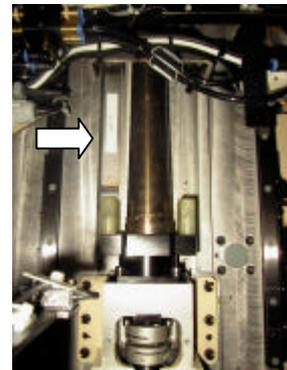

Figure 4
2. Pull the Y-axis up against the (155mm) (Fig. 4) Y-axis jig. (Jig No: DCPJ0720)